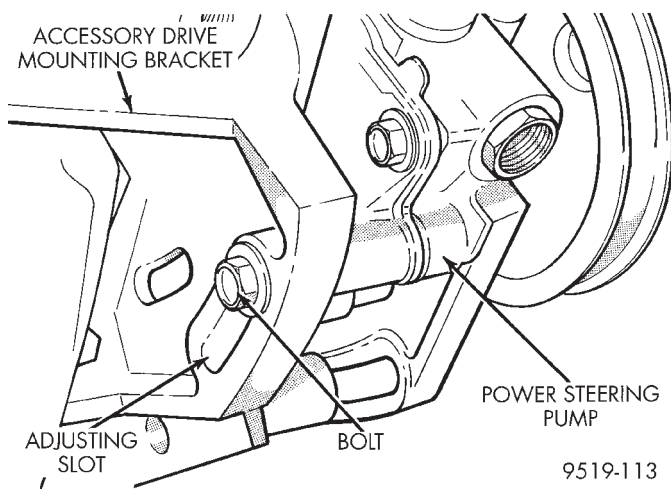

Fig. 34 Power Steering Pump Rear Mounting Bolt
(9) Remove bolt at adjusting slot in accessory drive mounting bracket, (Fig. 34) attaching back of power steering pump to the bracket.
(3) Loosely install the bolt mounting power steering pump to its rear mounting bracket (Fig. 34).
(4) Using a lint free towel, wipe clean all open power steering hose ends, and power steering pump fittings.
(5) Install a new O-ring on end of power steering pressure hose fitting.
(6) Lubricate both O-rings using fresh clean power steering fluid.
(7) Install the power steering pressure hose in the power steering pump pressure fitting. Loosely install tube nut into pressure fitting on power steering pump. **Pressure hose must be installed between the front bracket of the power steering pump and power steering pump pulley.**
(8) Install power steering pump drive belt on power steering pump pulley.